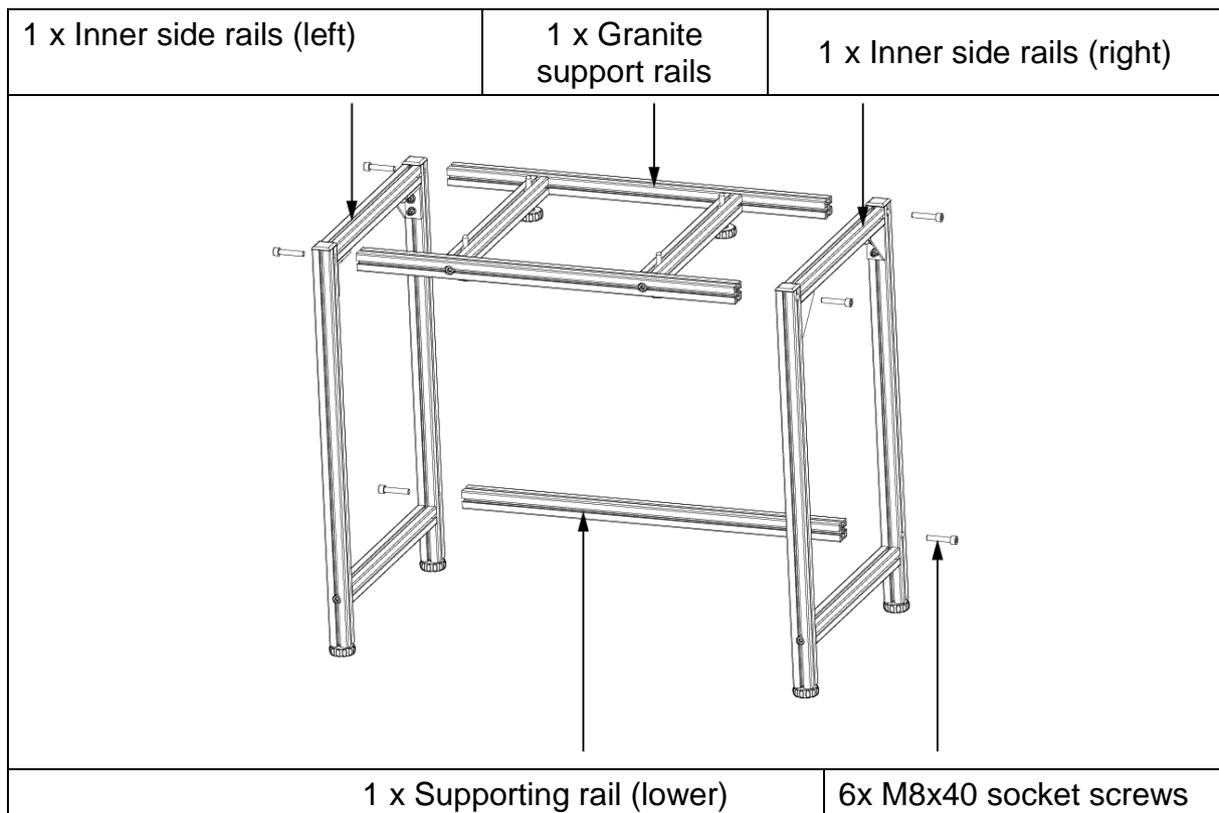

Figure 3
4. Remove the inner side rail (lefthand) from the upper packing layer and the inner side rail (righthand) from the middle packing layer and fix them with the M8x40 screws using the hexagon wrench. (See fig. 3)
5. Remove the lower granite supporting rail from the upper packing layer and fix it by the two M8x40 screws; for this purpose open the two side frames slightly in order to insert the rails into the frames. After that tighten the 6 screws as shown in fig. 3.